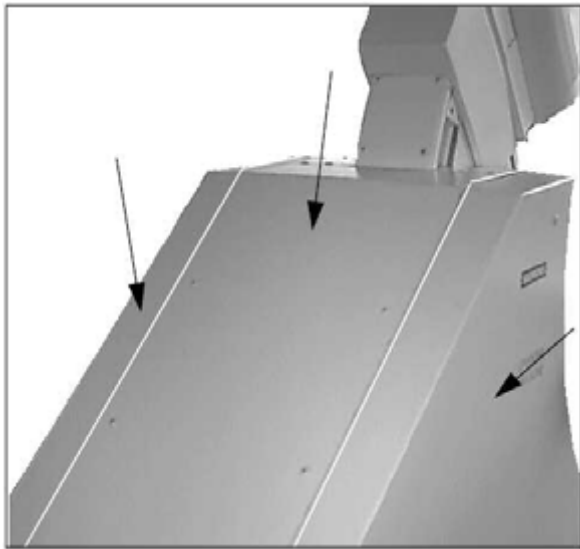

Fig. 28: Covers_A
- Remove the covers ((Fig. 28 / p. 63)) from the basic system and the X-ray tube.